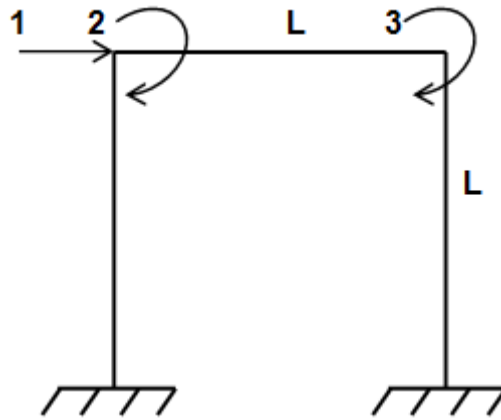

Fig. 3
2. Derive the stiffness matrix for the frame with respect to the reference co-ordinates as shown in Fig. 3. Assume $EI = 1$ and $L = 1$ unit. **(6)**